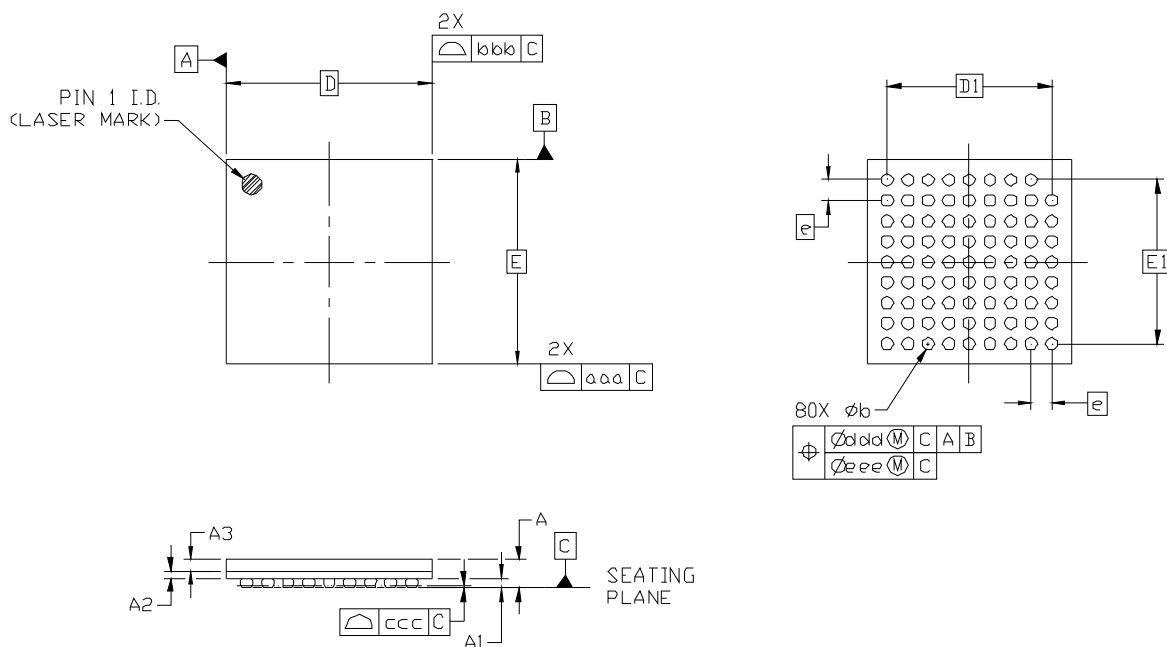

Figure 5. 80-Pin Plastic Ball Grid Array (PBGA)
Figure 5 illustrates the package details for the Si5374. Table 10 lists the values for the dimensions shown in the illustration.
- Corrected Figure 5 title.